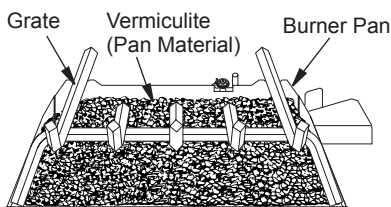

Figure 20 - Fill Entire Burner Pan with Vermiculite (P324E, VP325E Shown)
1. Open bag(s) of vermiculite and fill entire burner pan until burner tube is completely covered (see Figure 20).